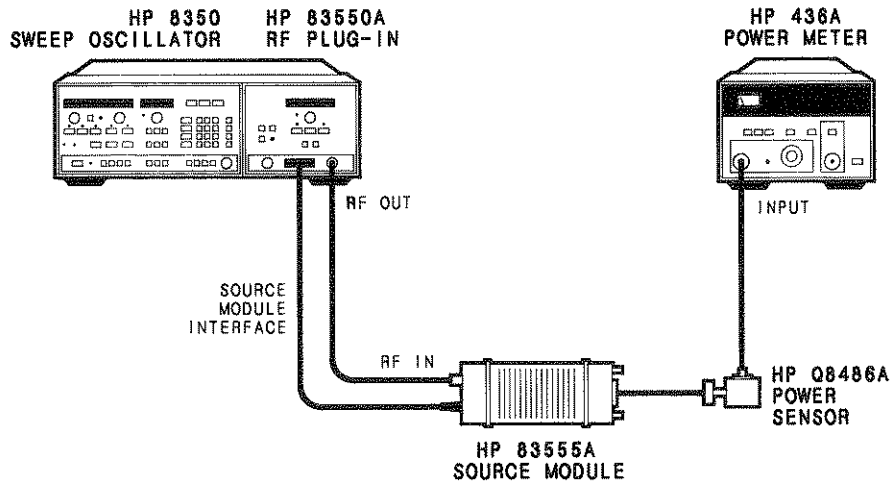

Figure 2-5. System Configuration
1. Connect the equipment as shown in Figure 2-5. Do not connect the HP Q8486A power sensor to the HP 83555A output.